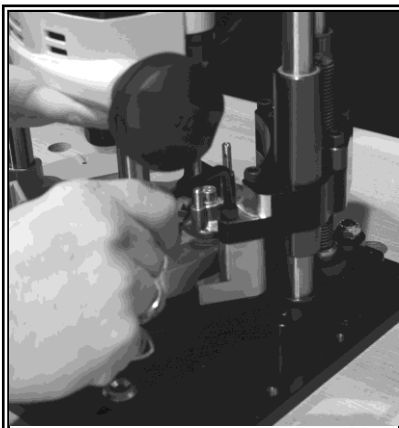

Figure 7
8. Pull up on the router until it meets the right carriage bracket. Now secure with three (3) 1- 1/2 Cap screws and one (1) 1" cap screw (Figure 7)